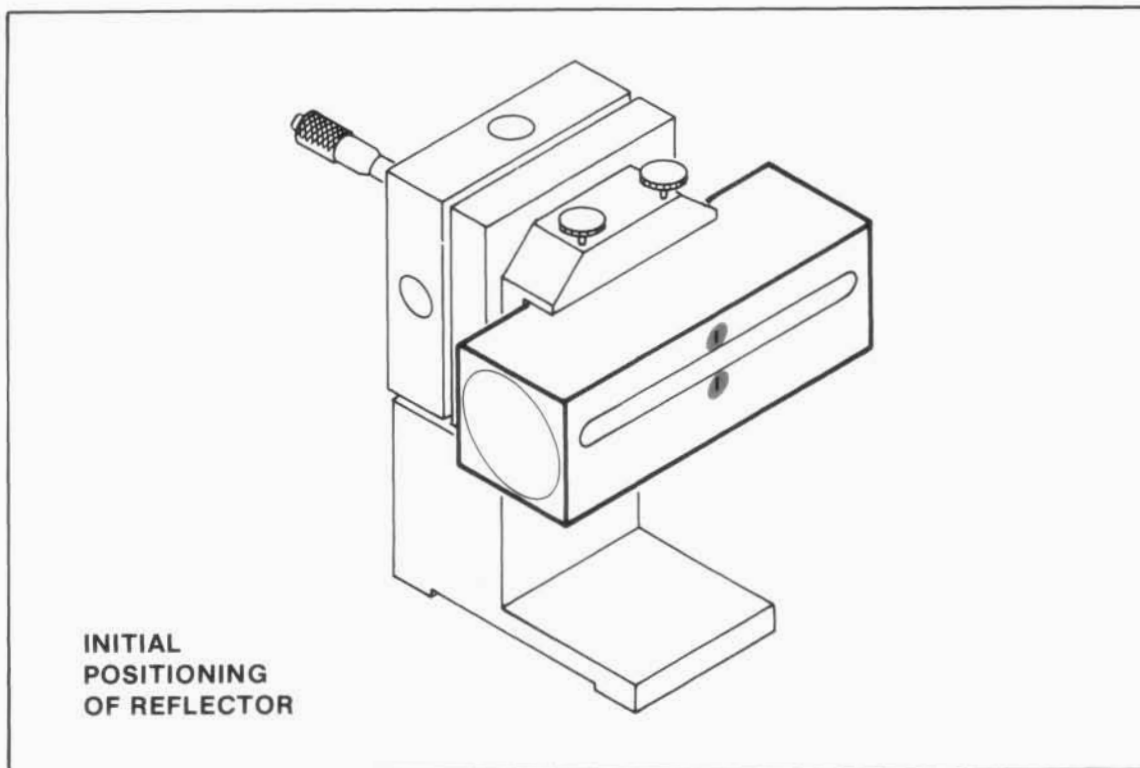

Figure G-10. Initial Positioning of Reflector
7. Position the reflector so that the two dots are located over the scribed center-line of the reflector housing and the face is square relative to the incoming beam. See Figure G-10.